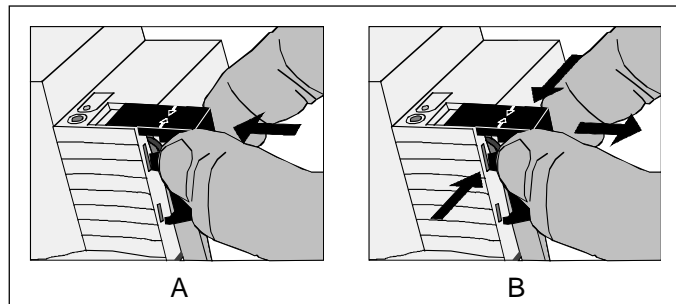

Fig. 4: Installing / removing the protective cap
- To install the cap: Slide the cap over the bus connecting terminal until it is heard to engage (cf. Fig. 4.A).
- To remove the cap: Remove the cap by pressing the sides slightly and by pulling it out to the front (cf. Fig. 4.B).